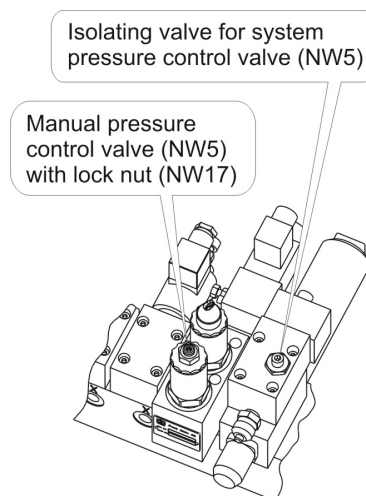

Fig. 2: Manual system (pump) pressure control.
- 1) Open manual pressure control valve (turn CCW). Refer to fig. 2.